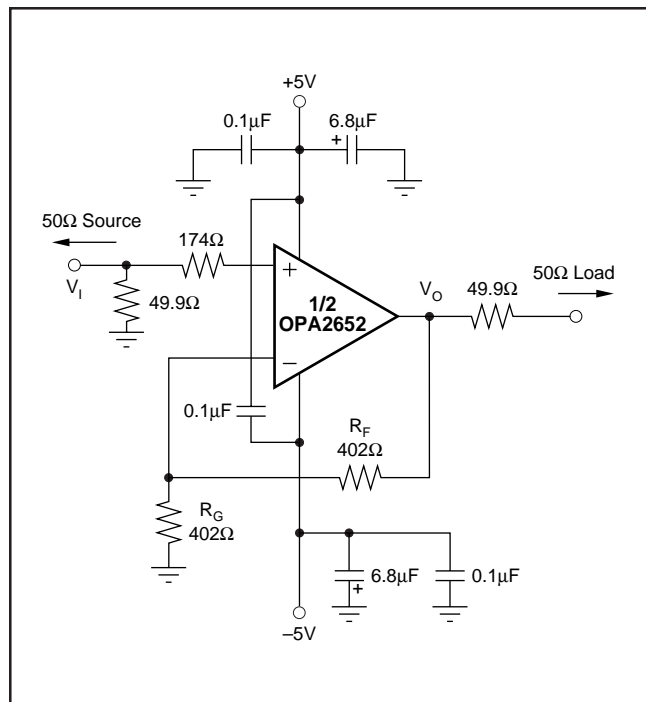
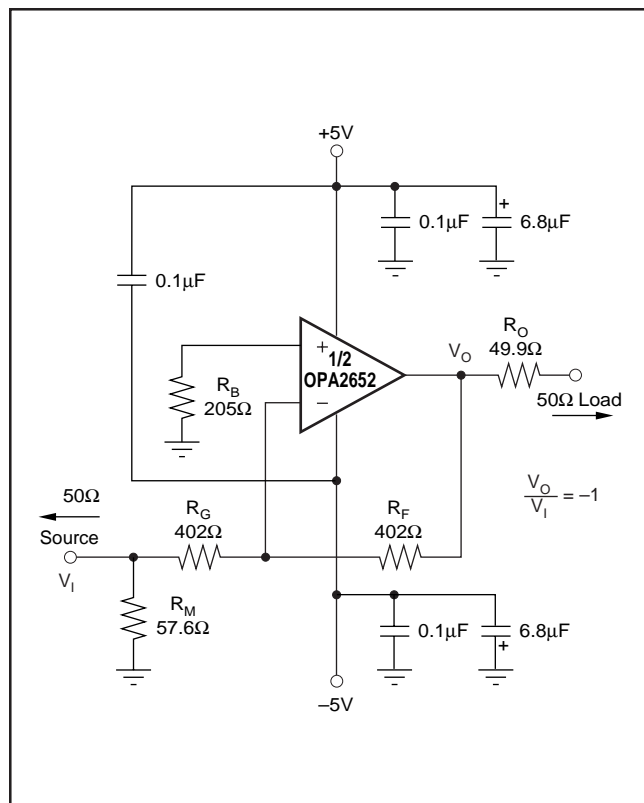

FIGURE 1. DC-Coupled,  $G = +2$ , Bipolar Supply, Specification and Test Circuit.
FIGURE 2. DC-Coupled,  $G = -1$ , Bipolar Supply, Specification and Test Circuit.
At  $T_A = +25^\circ C$ ,  $G = +2$ ,  $R_F = 402\Omega$ , and  $R_L = 100\Omega$ , unless otherwise noted. See Figures 1 and 2.
Figure 1 shows the DC-coupled, gain of +2, dual power supply circuit configuration used as the basis of the  $\pm 5\text{V}$  Specifications and Typical Performance Curves. This is for one channel. The other channel is connected similarly. For test purposes, the input impedance is set to  $50\Omega$  with a resistor to ground and the output impedance is set to  $50\Omega$  with a series output resistor. Voltage swings reported in the specifications are taken directly at the input and output pins, while output powers (dBm) are at the matched  $50\Omega$  load. For the circuit of Figure 1, the total effective load will be  $100\Omega \parallel 804\Omega$ . Two optional components are included in Figure 1.
Figure 2 shows the DC-coupled gain of  $-1$ , bipolar supply circuit configuration which is the basis of the Specifications and Typical Performance Curves at  $G = -1$ . The input impedance matching resistor ( $57.6\Omega$ ) used for testing gives a  $50\Omega$  input load. A resistor ( $205\Omega$ ) connects the non-inverting input to ground. This provides the DC source resistance matching to cancel outputs errors due to input bias current.
A good rule of thumb is to target the parallel combination of  $R_F$  and  $R_G$  (Figure 1) to be less than approximately 300Ω. The combined impedance  $R_F \parallel R_G$  interacts with the inverting input capacitance, placing an additional pole in the feedback network, and thus a zero in the forward response. Assuming a 2pF total parasitic on the inverting node, holding  $R_F \parallel R_G < 300\Omega$  will keep this pole above 250MHz. By itself, this constraint implies that the feedback resistor  $R_F$  can increase to several kΩ at high gains. This is acceptable as long as the pole formed by  $R_F$  and any parasitic capacitance appearing in parallel is kept out of the frequency range of interest.
Voltage feedback op amps exhibit decreasing closed-loop bandwidth as the signal gain is increased. In theory, this relationship is described by the Gain Bandwidth Product (GBP) shown in the specifications. Ideally, dividing GBP by the non-inverting signal gain (also called the Noise Gain, or NG) will predict the closed-loop bandwidth. In practice, this only holds true when the phase margin approaches  $90^\circ$ , as it does in high gain configurations. At low gains (increased feedback factor), most amplifiers will exhibit a wider bandwidth and lower phase margin. The OPA2652 is compensated to give a flat response in a non-inverting gain of 1 (Figure 1). This results in a typical gain of +1 bandwidth of 700MHz, far exceeding that predicted by dividing the 200MHz GBP by  $NG = 1$ . Increasing the gain will cause the phase margin to approach  $90^\circ$  and the bandwidth to more closely approach the predicted value of  $(GBP/NG)$ . At a gain of +5, the 45MHz bandwidth shown in the Typical Specifications is close to that predicted using this simple formula.
Since the OPA2652 is a general purpose, wideband voltage feedback op amp, all of the familiar op amp application circuits are available to the designer. Inverting operation is one of the more common requirements and offers several performance benefits. Figure 2 shows a typical inverting configuration.
In the inverting configuration, three key design considerations must be noted. The first is that the gain resistor ( $R_G$ ) becomes part of the signal channel input impedance. If input impedance matching is desired (which is beneficial whenever the signal is coupled through a cable, twisted pair, long PC board trace or other transmission line conductor),  $R_G$  may be set equal to the required termination value and  $R_F$  adjusted to give the desired gain. This is the simplest approach and results in optimum bandwidth and noise performance. However, at low inverting gains, the resultant feedback resistor value can present a significant load to the amplifier output. For an inverting gain of  $-1$ , setting  $R_G$  to  $50\Omega$  for input matching eliminates the need for  $R_M$  but requires a  $50\Omega$  feedback resistor. This has the interesting advantage that the noise gain becomes equal to 2 for a  $50\Omega$  source impedance—the same as the non-inverting circuits considered above. However, the amplifier output will now see the  $50\Omega$  feedback resistor in parallel with the external load. In general, the feedback resistor should be limited to the  $200\Omega$  to  $1.5k\Omega$  range. In this case, it is preferable to increase both the  $R_F$  and  $R_G$  values as shown in Figure 2, and then achieve the input matching impedance with a third resistor ( $R_M$ ) to ground. The total input impedance becomes the parallel combination of  $R_G$  and  $R_M$ .
The second major consideration, touched on in the previous paragraph, is that the signal source impedance becomes part of the noise gain equation and influences the bandwidth. For the example in Figure 2, the  $R_M$  value combines in parallel with the external  $50\Omega$  source impedance, yielding an effective
driving impedance of  $50\Omega \parallel 57.6\Omega = 26.8\Omega$ . This impedance is added in series with  $R_G$  for calculating the noise gain (NG). The resultant NG is 1.94 for Figure 2, (an ideal  $0\Omega$  source would cause  $NG = 2.00$ ).
The third important consideration in inverting amplifier design is setting the bias current cancellation resistor on the non-inverting input ( $R_B$ ). If this resistor is set equal to the total DC resistance looking out of the inverting node, the output DC error, due to the input bias currents, will be reduced to  $(\text{Input Offset Current}) \cdot R_F$ . If the  $50\Omega$  source impedance is DC-coupled in Figure 2, the total resistance to ground on the inverting input will be  $429\Omega$ . Combining this in parallel with the feedback resistor gives  $208\Omega$ , which is close to the  $R_B = 205\Omega$  used in Figure 2. To reduce the additional high frequency noise introduced by this resistor, it is sometimes bypassed with a capacitor. As long as  $R_B < 300\Omega$ , the capacitor is not required since its total noise contribution will be much less than that of the op amp's input noise voltage.
The OPA2652 provides good distortion performance into a 100 $\Omega$  load on  $\pm 5V$  supplies. Increasing the load impedance improves distortion directly. Remember that the total load includes the feedback network; in the non-inverting configuration (Figure 1) this is sum of  $R_F + R_G$ , while in the inverting configuration, it is just  $R_F$ . Also, providing an additional supply decoupling capacitor (0.1 $\mu F$ ) between the supply pins (for bipolar operation) improves the 2nd-order distortion slightly (3dB to 6dB).
Evaluating these two equations for the OPA2652 circuit and component values shown in Figure 1 will give a total output spot noise voltage of  $17nV/\sqrt{Hz}$  and a total equivalent input spot noise voltage of  $8.4nV/\sqrt{Hz}$ . This is including the noise added by the bias current cancellation resistor (205 $\Omega$ ) on the non-inverting input. This total input-referred spot noise voltage is only slightly higher than the  $8nV/\sqrt{Hz}$  specification for the op amp voltage noise alone. This will be the case as long as the impedances appearing at each op amp input are limited to the previously recommend maximum value of 300 $\Omega$ . Keeping both ( $R_F \parallel R_G$ ) and the non-inverting input source impedance less than 300 $\Omega$  will satisfy both noise and frequency response flatness considerations. Since the resistor-induced noise is relatively negligible, additional capacitive decoupling across the bias current cancellation resistor ( $R_B$ ) for the inverting op amp configuration of Figure 2 is not required.
The balanced input stage of a wideband voltage feedback op amp allows good output DC accuracy in a wide variety of applications. Although the high speed input stage does require relatively high input bias current (typically 4 $\mu A$  out of each input terminal), the close matching between them may be used to significantly reduce the output DC error caused by this current. This is done by matching the DC source resistances appearing at the two inputs. This reduces the output DC error due to the input bias currents to the offset current times the feedback resistor. Evaluating the configuration of Figure 1, using worst-case +25 $^{\circ}C$  input offset voltage and current specifications, gives a worst-case output offset voltage equal to:
As an example, compute the maximum  $T_J$  using an OPA2652E (SOT23-8 package) in the circuit of Figure 1 operating at the maximum specified ambient temperature of  $+85^{\circ}\text{C}$  and with both outputs driving  $2.5\text{V}_{\text{DC}}$  into a grounded  $100\Omega$  load.